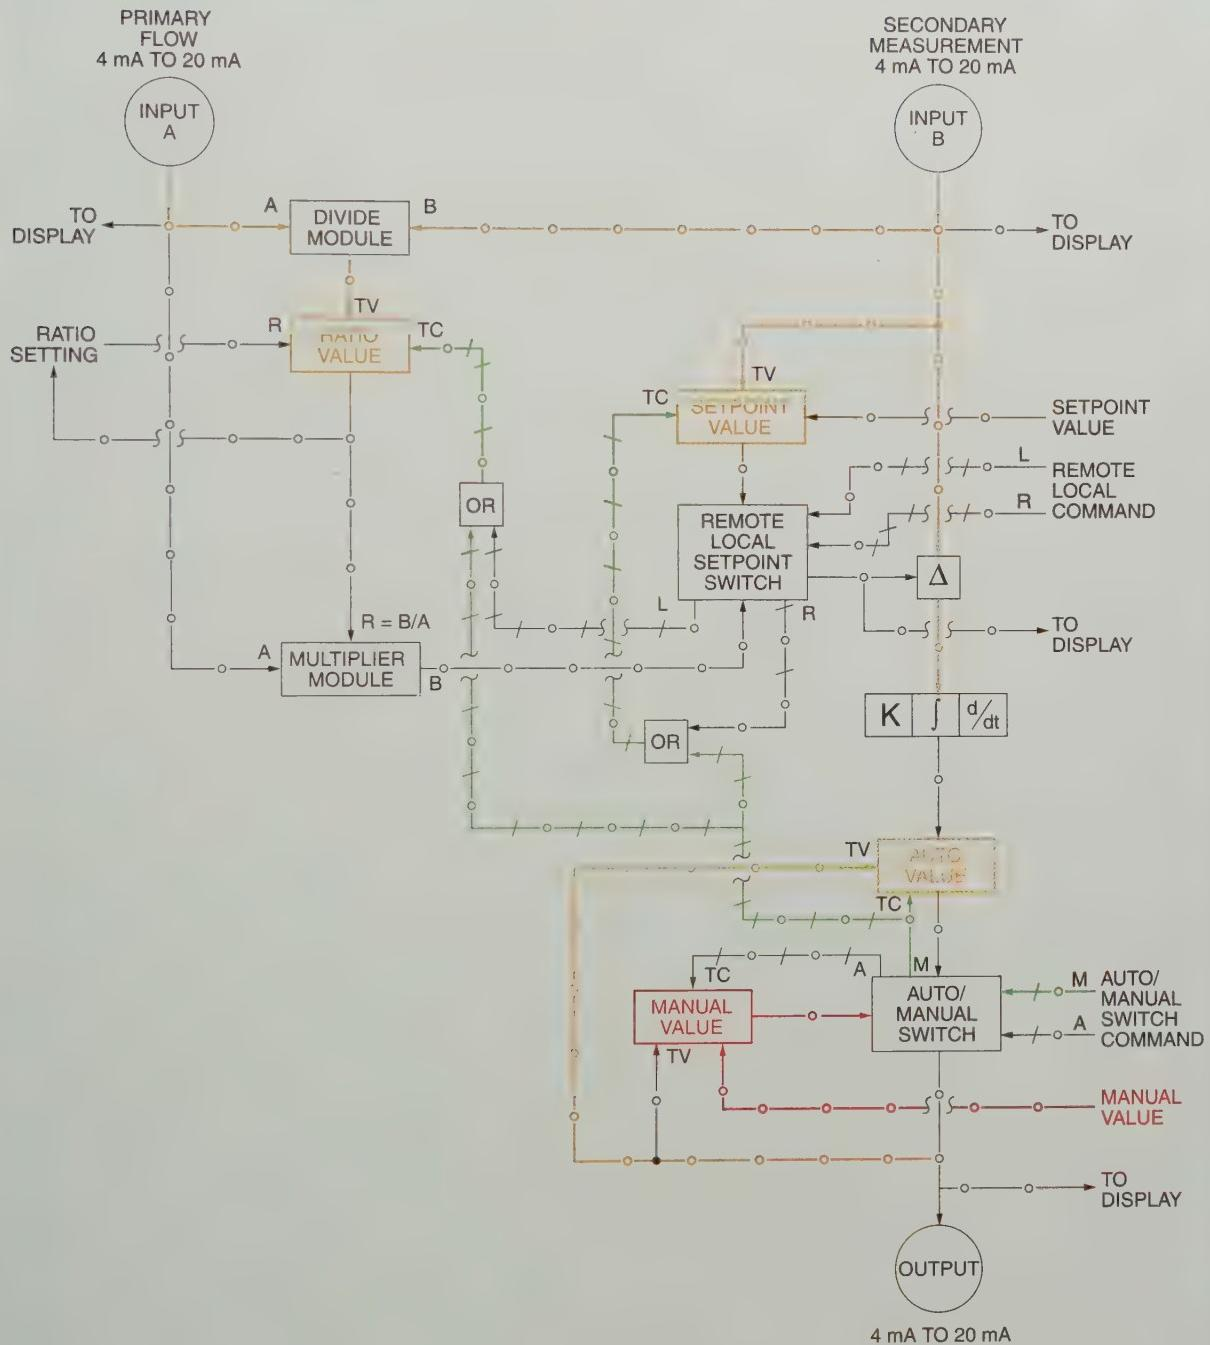

Figure 49-4. A manual flow ratio operation implements several tracking operations to enable bumpless transfer of control.
Ratio Controller Manual Operation. Switching the normal flow ratio operation to manual setpoint mode allows the operator to manually adjust the output of the flow ratio controller. See **Figure 49-4**. With the A/M switch in manual, the switch sends tracking commands (TC) to the ratio value, the setpoint value, and the auto value blocks, as shown in green. The auto value block tracks the flow ratio controller's output and the other two track their appropriate values, as shown in orange. This tracking provides a bumpless transfer if the controller is switched to automatic or back to normal flow ratio operation.